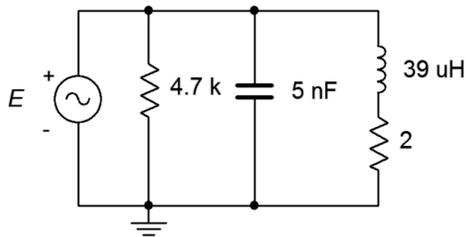

Figure 8.7
21. For the circuit shown in Figure 8.7, determine the resonant frequency, system  $Q$  and bandwidth. If the source is 15 volts, determine the resistor, inductor and capacitor currents at resonance.